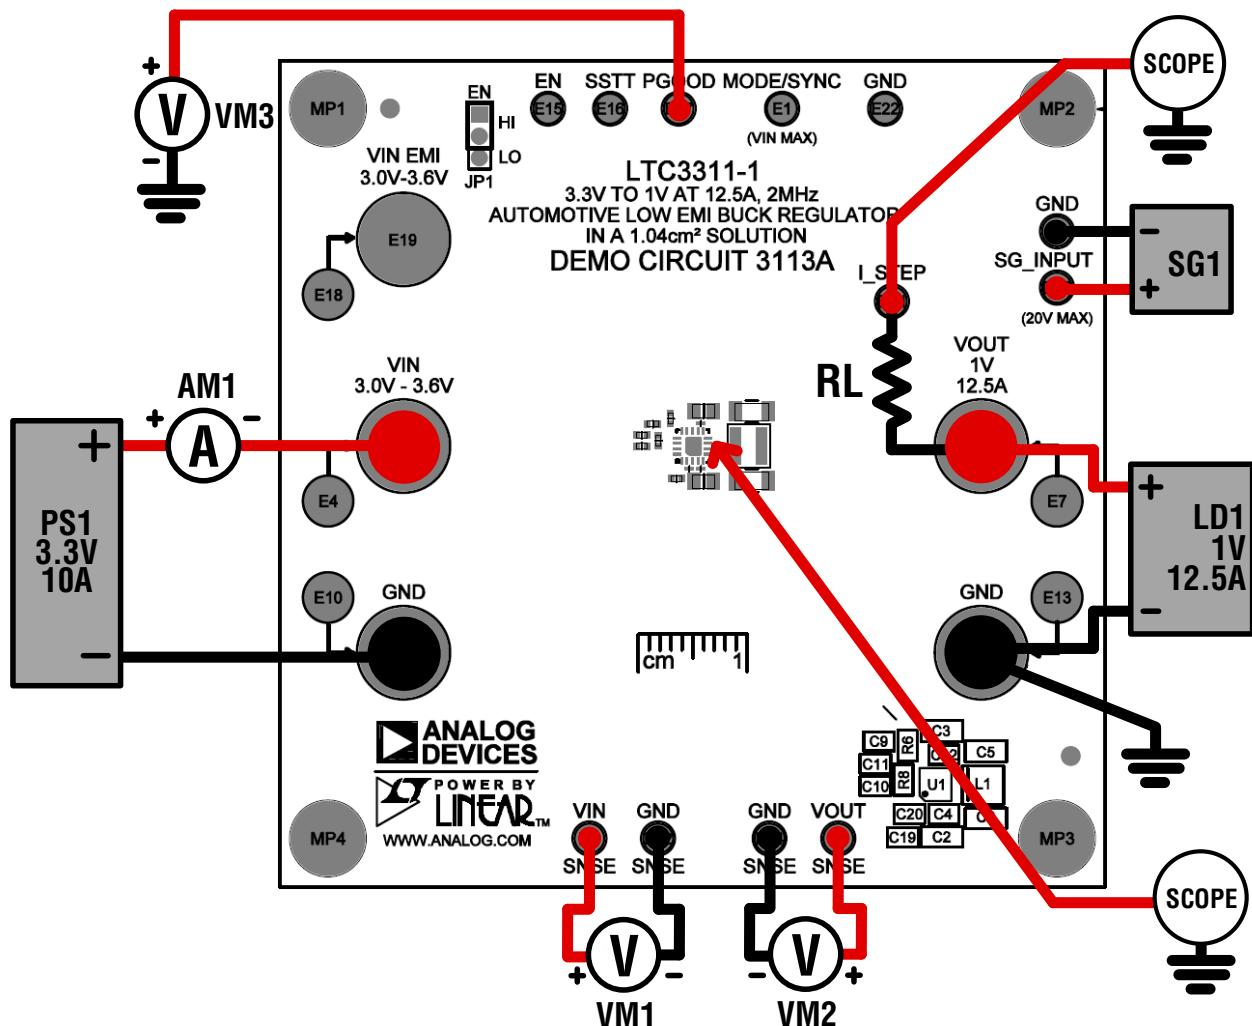

Figure 2. Test Setup for DC3113A Demo Board
Refer to Figure 2 for the proper measurement equipment setup and follow the procedure below:
NOTE: For accurate  $V_{IN}$ ,  $V_{OUT}$  and efficiency measurements, measure  $V_{IN}$  at the VIN SNSE and GND SNSN turrets, and measure  $V_{OUT}$  at the VOUT SNSE and GND SNSE turrets as illustrated as VM1 and VM2 in Figure 2. When measuring the input or output ripple, care must be taken to avoid a long ground lead on the oscilloscope probe.
7. To test the transient response with a base load, add the desired resistor to produce a minimum load between  $V_{OUT}$  and  $I_{STEP}$  turrets (RL shown on Figure 2). Note that the total load resistance will be  $RL$  plus  $R10$  (10mΩ). Adjust a signal generator with a 10ms period, 10% duty cycle and an amplitude from 1V to 2V to start.